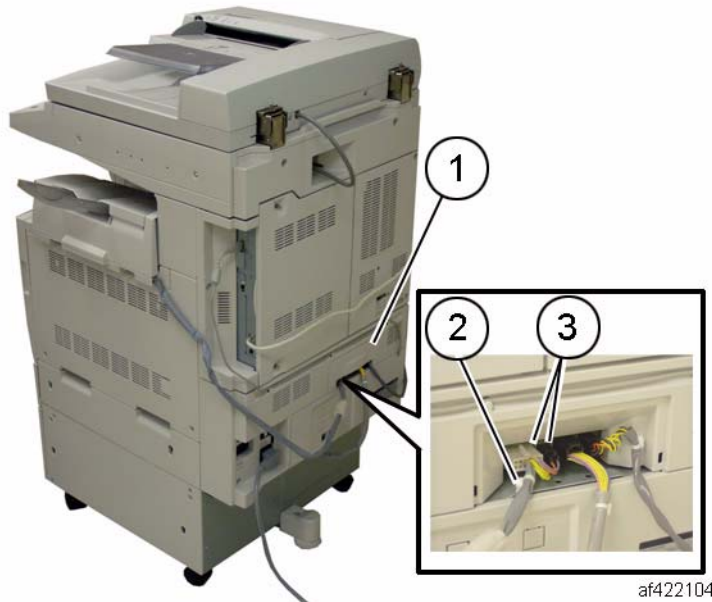

Figure 1 Disconnecting harness
4. Disconnect the Integrated Office Finisher Wire Harness (Figure 1):